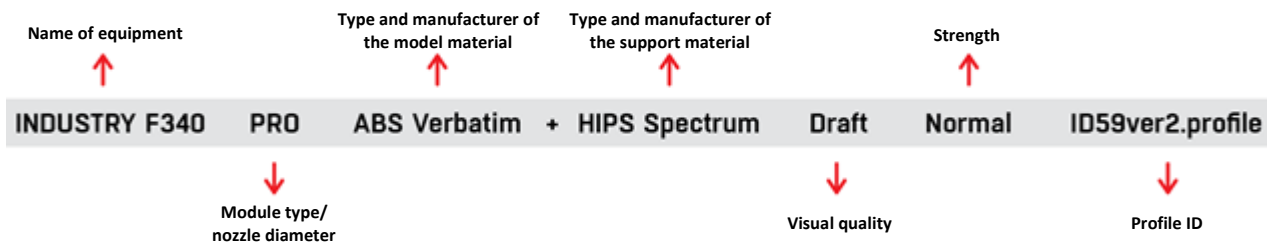

Fig. 29 Description of the name of profile
3. From the list, select the profile you want to edit (Fig. 29, 30), and then select 'Open' (it is recommended to select the latest updated profile). The profile will load automatically, however, it may take several seconds. The activation of a profile from outside of the software will prevent changing of the default print quality settings.